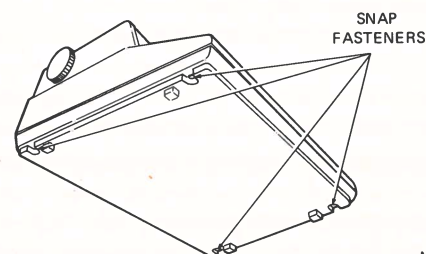

Figure 2-4 Printer Housing Cover Removal
8. With a small-blade screwdriver, release the four snap fasteners that secure the printer housing cover to the base assembly (Figure 2-4).